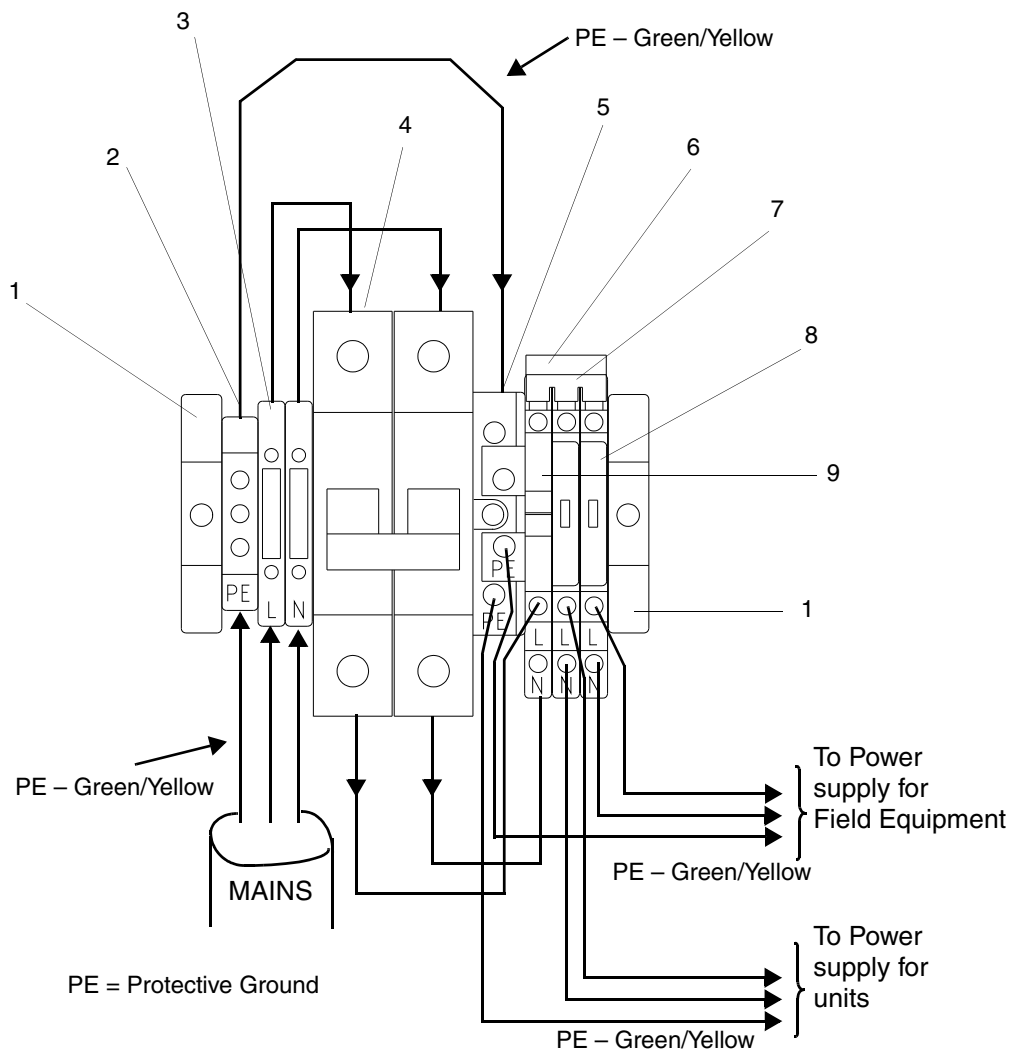

Figure 47. Installation of Mains Breaker Assembly
1. Mount the mains breaker unit components onto the DIN-rail, from left to right, close to the incoming power supply, in the order given below (see Figure 47 on page 144).
- a. A DIN-rail end-stop (1).
- b. The terminal for the incoming protective ground (2).
-  The protective ground terminal (2) is fitted with a knife-like device to provide automatic grounding to the DIN-rail.
- c. The two terminals for the incoming Live and Neutral mains power (3). These terminals are equipped with built-in jumpers which, if necessary, can be opened to provide complete mains input power isolation.
- d. The miniature mains breaker unit (4).
- e. The protective ground distribution terminal (5).
- f. The mains distribution terminal block (6), depending on the required configuration.
- g. A DIN-rail end-stop (1).
2. Connect the incoming mains, the protective ground terminals, the mains breaker and the distribution terminals as shown in Figure 47 on page 144.
3. Install the two required links (7), fuse holders (8) and jumpers (9) onto the distribution terminals. Fit the required fuses into the fuse holders, (glass tube type, 5 x 20 mm (0.2 x 0.8 in)).